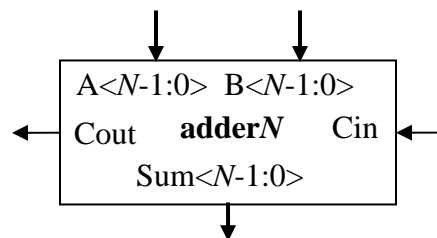

Figure 1: N -bit Binary Adder Block Diagram
For this lab, we will consider the design of a binary adder. Binary adders are a key component of logic circuits. They are used not only in the arithmetic logic units (ALU) for data processing but are also used in other parts of a logic processor to calculate addresses and signal evaluations. An N -bit binary adder takes two binary numbers (A and B) of size N and a carry-in (C_{in}) as inputs, sum up the three values, and produces a sum (S) and a carry-out (C_{out}), as shown in Figure 1.